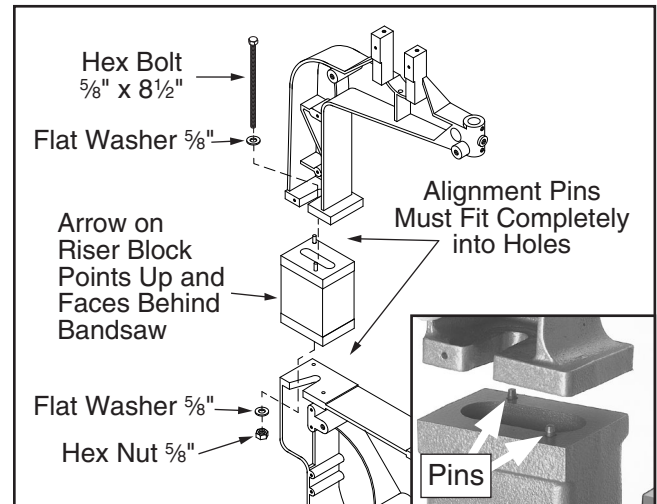

Figure 3. Installing riser block.
6. Install the riser block and replace the upper arm, as shown in **Figure 3**, using (1) $\frac{5}{8}$ "-11 x $8\frac{1}{2}$ " hex bolt, (2) $\frac{5}{8}$ " flat washers, and (1) $\frac{5}{8}$ "-11 hex nut.